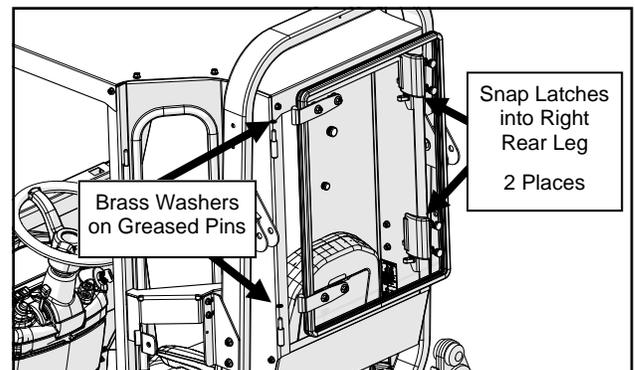

Fig. 11.1 (Hang Rear Window)
- 11.1** Grease the hinge pins for the rear window, and slide on greased brass washers (one washer per pin). See Figure 11.1.